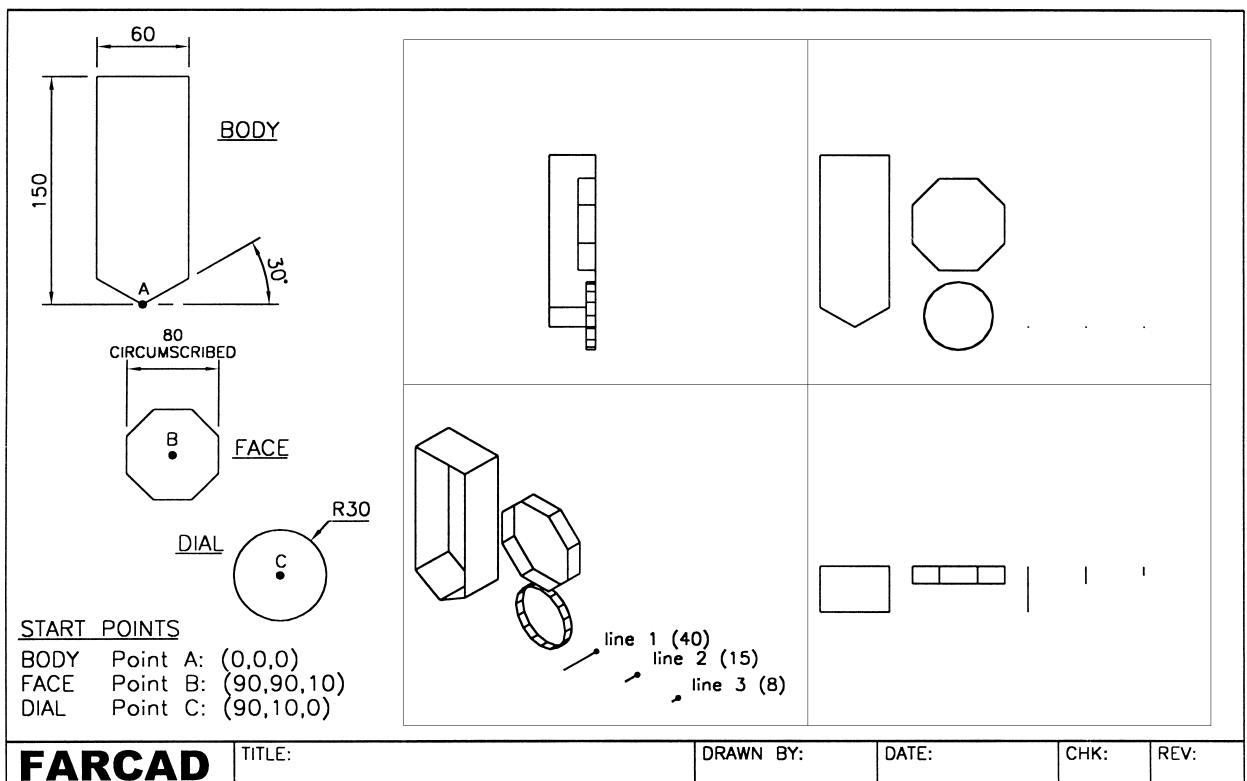

Figure 23.5 Information for creating the three wblocks.
- 1 Open the MV3DSTD template file with MVLAY1 tab, UCS BASE and zoom centre about 125,0,100 at 300 magnification in all viewports. Refer to Fig. 23.5
- 10 The layout at this stage should resemble Fig. 23.5